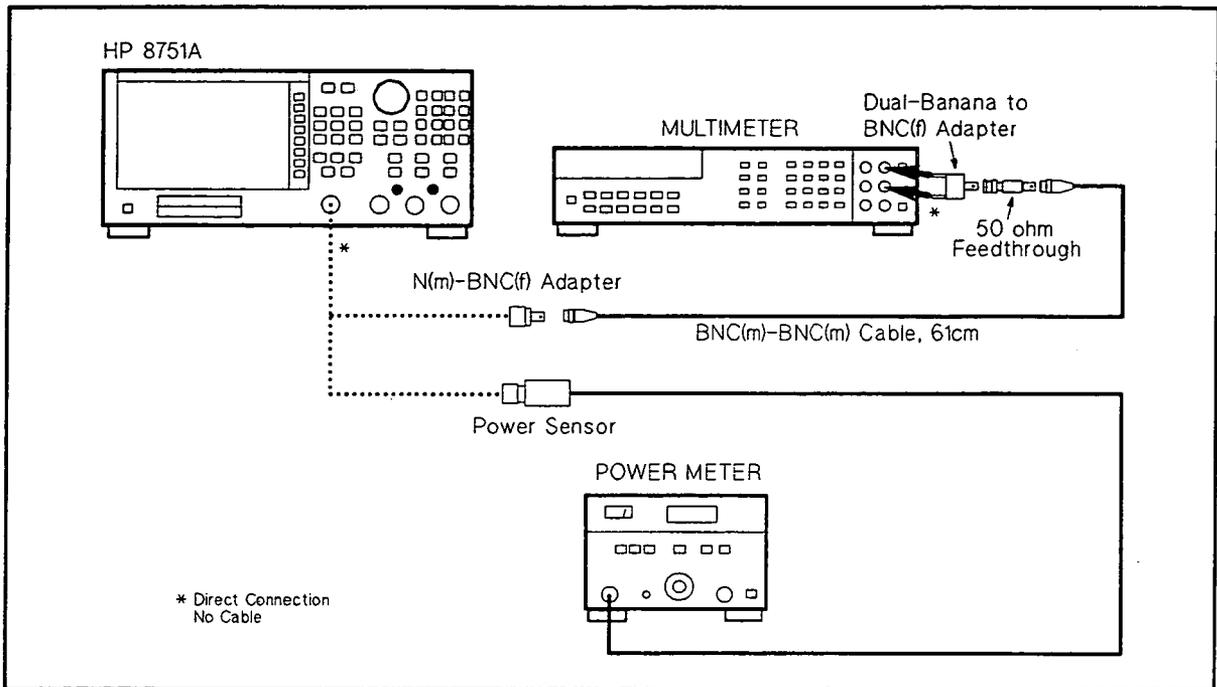

Figure 2-5. Level Accuracy/Flatness Test Setup
2. Connect the Power Sensor to the HP 8751A RF OUT as shown in Figure 2-5.
6. Disconnect the power sensor, and connect the Digital Voltmeter INPUT to HP 8751A RF OUT, as shown in Figure 2-5 (use a 50 Ω Feedthrough on the Digital Voltmeter input).